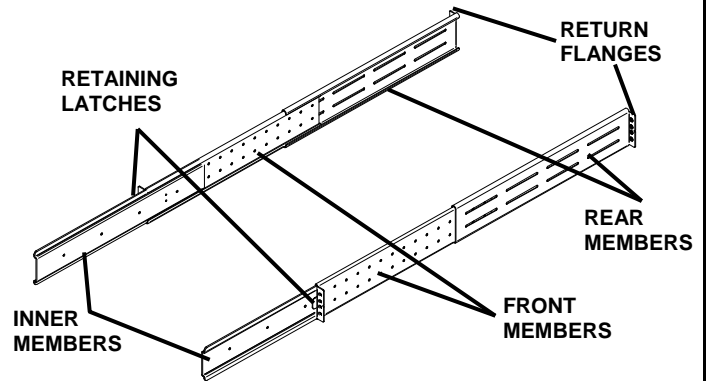

Figure 1
1. Unpack (2) Rack-Mounting Bracket Assemblies and mounting hardware from this kit. Bracket Assemblies are interchangeable between left-hand or right-hand. Remove Inner Member of each Bracket Assembly as shown in Figure 1 by extending it to its outermost position, depressing the Retaining Latch and then pulling Inner Member from Bracket Assembly.